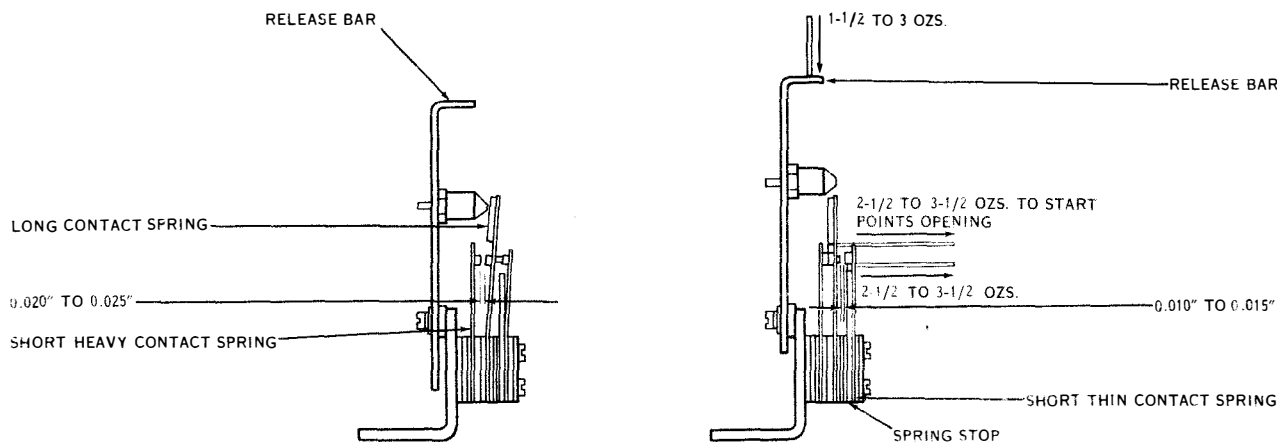

Figure 7-89. Release Bar Contact and Spring Tensions
(See figure 7-89.)
(22) RELEASE BAR SPRING TENSION. (See figure 7-89.)—A tension of 1½ to 3 ounces should be required to start the release bar moving downward. To check, apply the push end of an eight-ounce scale to the top of the release bar and push downward.